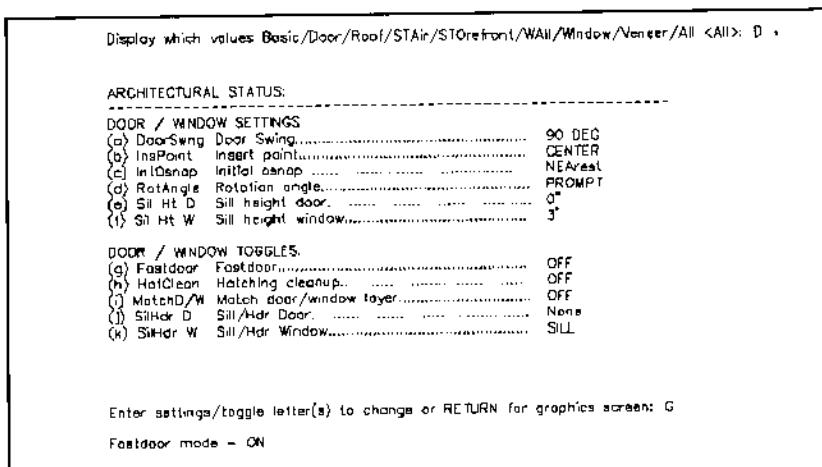

Figure 6.
- The Door Status display options are shown in Figure 6. The Door and Window Status boxes both display the same setting and toggle options.